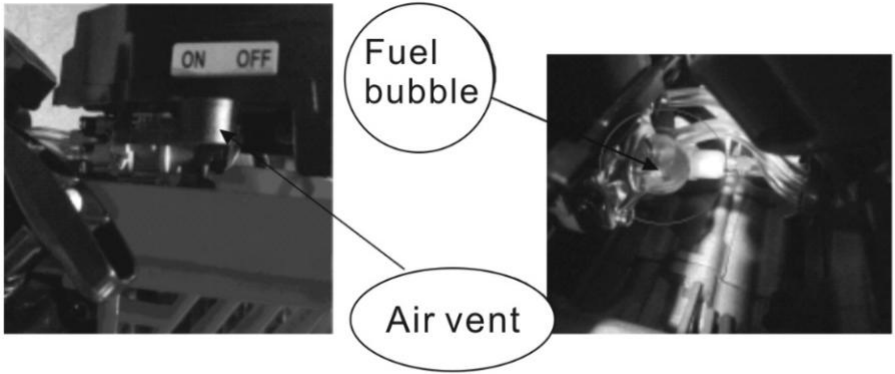

Fig 3
1. Before first starting of the new machine, repeat press the transparent fuel bubble (See Fig.3) to fully fill the Carburetor with fuel.